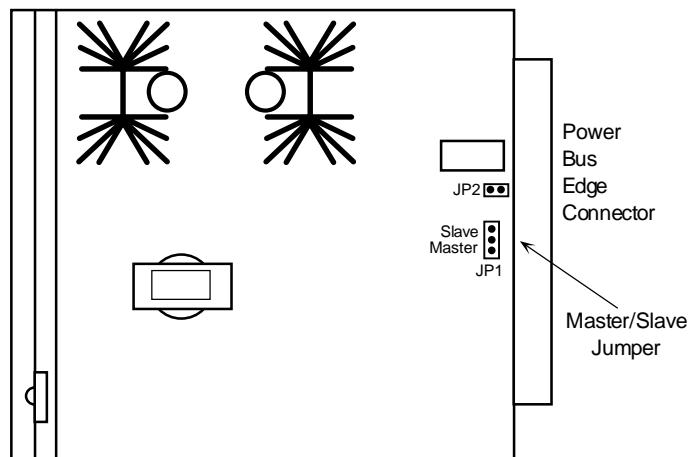

Figure 2-8. 100V Ringing Generator Jumper Settings
3. Also make sure jumper JP2 is installed on the card, Figure 2-8. This jumper ensures electrical compliance with all chassis. **Never remove it for any reason!**